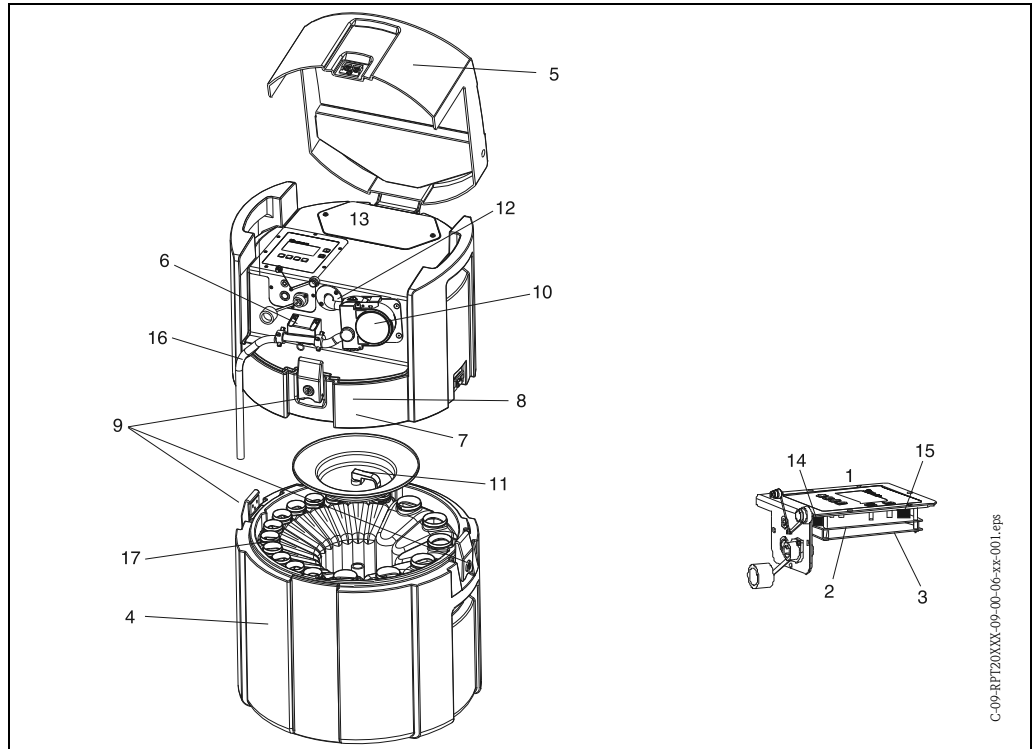

Fig. 46: Spare parts (position numbers are explained in the spare parts list)
A	Controller complete ( => Fig. 46, pos. 1)
B	CPU incl. display up to no. 520013040B3 ( => Fig. 46, pos. 2)
G	CPU incl. display ( => Fig. 46, Pos. 2) from No. 520014040B3